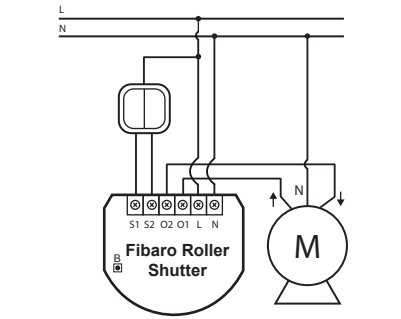
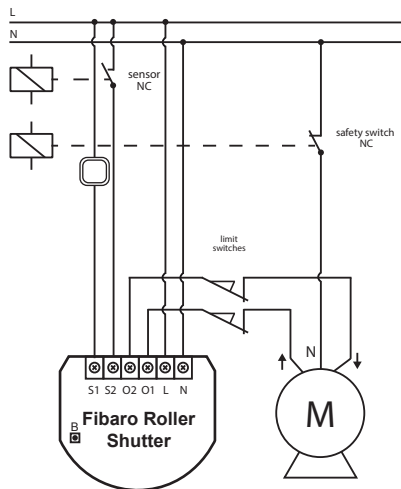

Fig. 1 Roller Shutter wiring diagram
Fig. 2 Connecting Roller Shutter to GATE motor
- Connect the Roller Shutter in accordance with the wiring diagram presented on the Fig. 1 (roller blinds, venetian blinds) or Fig. 2 (gates).
- Arrange the antenna (tips presented below Fig.2)
- Make sure the module is connected to the power supply, according to Fig.1
- Make sure the module is connected to the power supply, according to Fig.1, and to the switch keys as well (S1 and S2 inputs).